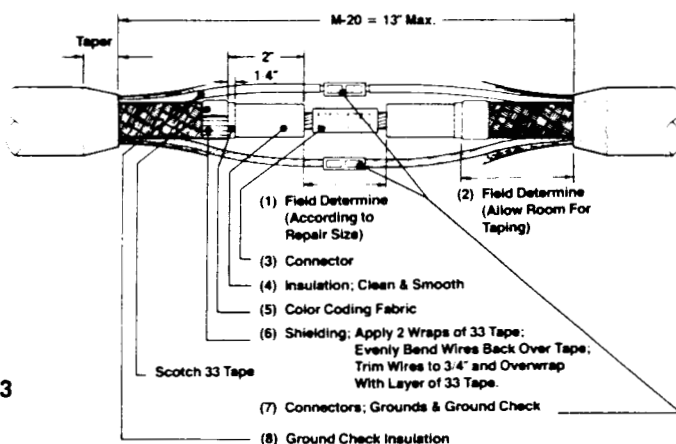
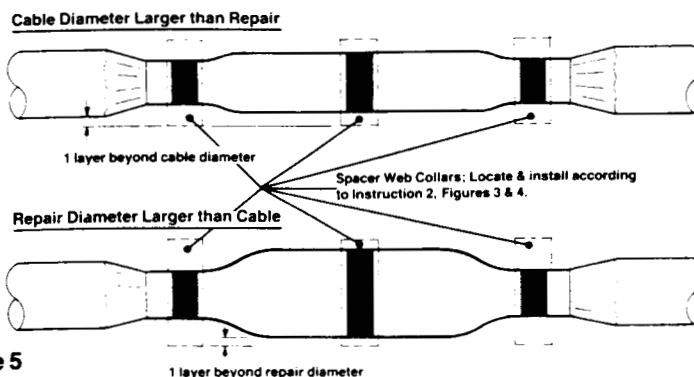

Figure 3
Figure 5
1. Bind conductors together with band(s) of **INVERTED** vinyl tape (adhesive side out), located per Spacer Web positions shown in **INSTRUCTION 2, FIGURE 3, PAGE 4.**
2. Wrap on spacer web collar(s); build **EQUAL DIAMETERS** to 1 layer greater than repair or cable diameter, whichever is largest. (Figure 5) **Locate and install collars according to INSTRUCTION 2, FIGURES 3 & 4, PAGE 4-5.**